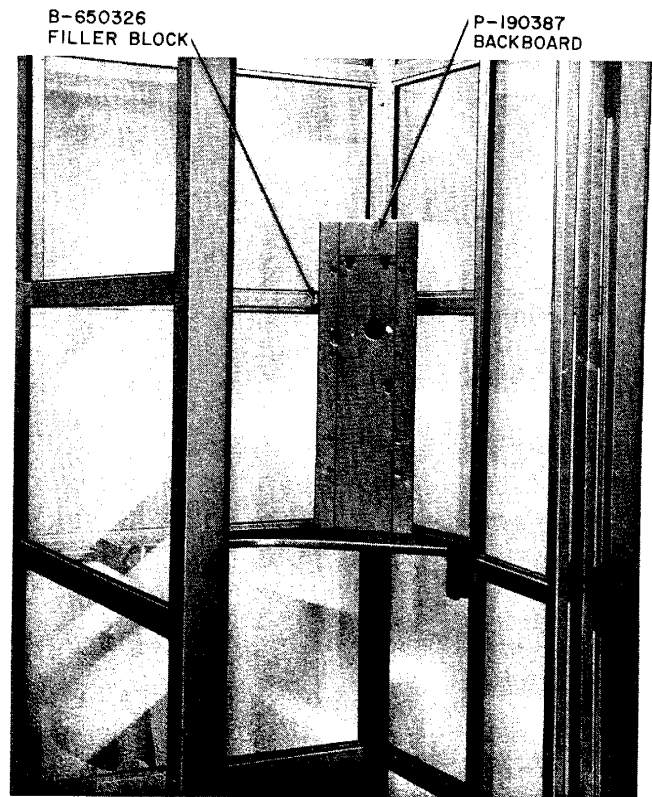

Fig. 6—KS-16797 Universal Booth with B-190387 Backboard
- Later models (Fig. 6) will accept 1A-type coin telephone or 200-type coin collectors.
- (1) Remove and discard.
- (2) Obtain and install B-190387 backboard and two B-650326 filler blocks (Fig. 6).